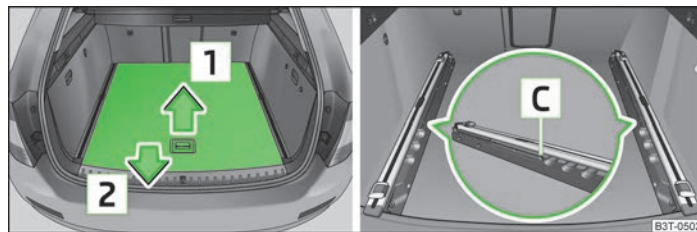
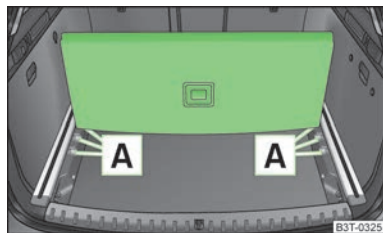

Fig. 72 Boot: partially pulling out the variable loading floor
Fig. 73
- Grasp the rear part of the variable loading floor by the handle, raise it slightly in the direction of the arrow **1** » Fig. 72 and pull it out over the bumper in the direction of the arrow **2** until it engages in the opening **C** » Fig. 72.
- Grasp the rear part of the floor by the handle, raise it in direction of arrow **1** » Fig. 72 on page 77 and insert the rear edge in one of the openings **A** » Fig. 73.